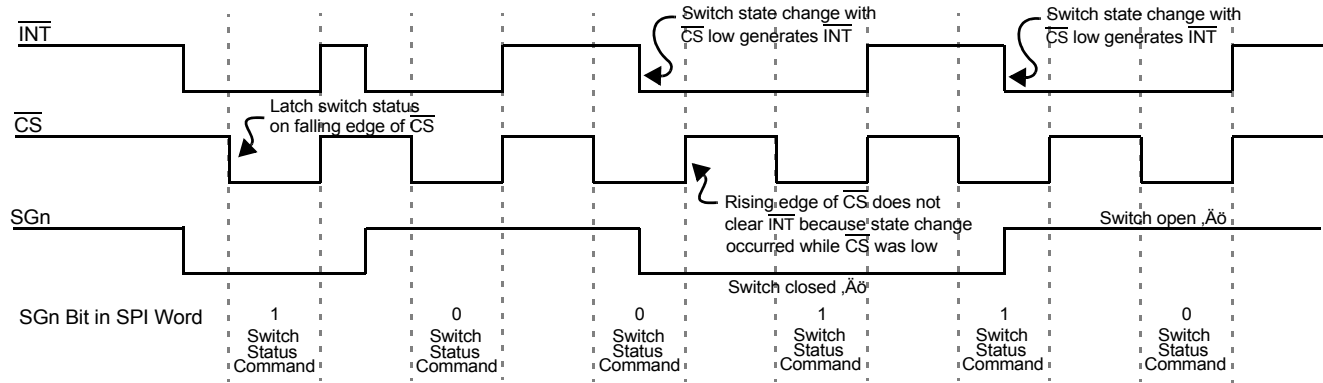

Figure 6. Normal Mode Interrupt Operation
2.  $\overline{INT}$  pin is reset to logic [1], except when additional switch changes occur during  $\overline{CS}$  low (see Figure 6, page 11).
Figure 6, page 11, is a graphical description of the device operation in Normal mode. Switch states are latched into the input register on the falling edge of  $\overline{\text{CS}}$ . The  $\overline{\text{INT}}$  to the MCU is cleared on the rising edge of  $\overline{\text{CS}}$ . However,  $\overline{\text{INT}}$  will not clear on the rising edge of  $\overline{\text{CS}}$  if a switch has closed during SPI communication ( $\overline{\text{CS}}$  low). This prevents switch states from being missed by the MCU.